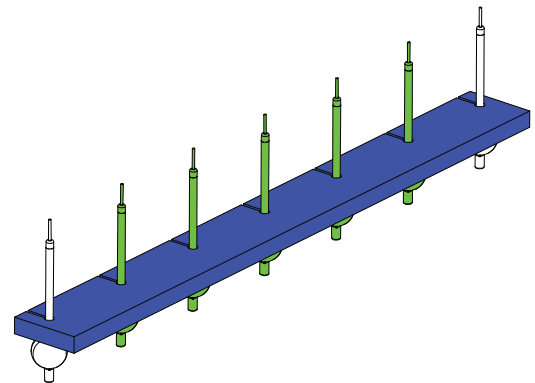

Fig. 1b
12. Fig. 1b: Adjust the Cords in between until they are level as well. Repeat Steps 2 & 3 for the opposite side.